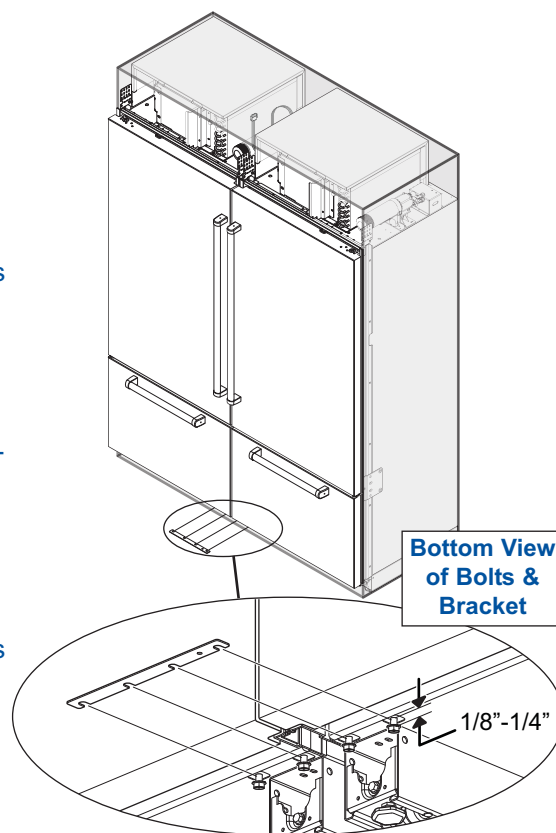

Figure 8. Join Units Together at bottom
- Align the four notches of the Dual Installation Bottom Bracket with the four bolts at bottom adjoining corners of the appliances, push the bracket into position, then tighten the bolts (See Figure 8).
- Using a 1/2" wrench, install four 5/16" x 3/4" Thread-Forming Screws (2 each unit) at bottom adjoining corners of the appliances, but DO NOT tighten them, instead leave a 1/8" (3mm) to 1/4" (6mm) gap between bolt heads and unit shell bottom (See Figures 8).
- Align the four notches of the Dual Installation bottom Bracket with the four bolts at bottom adjoining corners of the appliances, push the bracket into position, then tighten the bolts (See Figures 8).